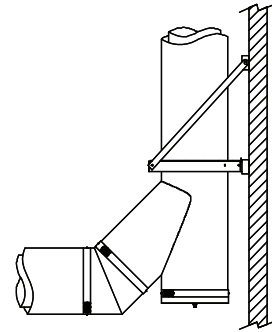

Figure 12 - Smooth 90° Turn
1. For systems where flow resistance must be minimized like engine or turbine exhaust. The use of a 45° tee is suggested. It can be combined with a 45° elbow to make a smooth 90° turn (see **figure 12**). To support this tee, use similar method as a 90° tee.